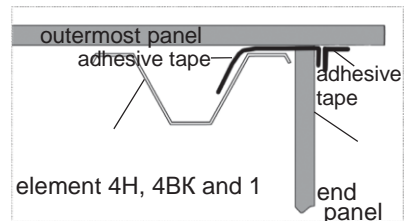

Fig. 24
- Glue coverage joint between greenhouse ends and top panels with adhesive tape (Fig. 24).